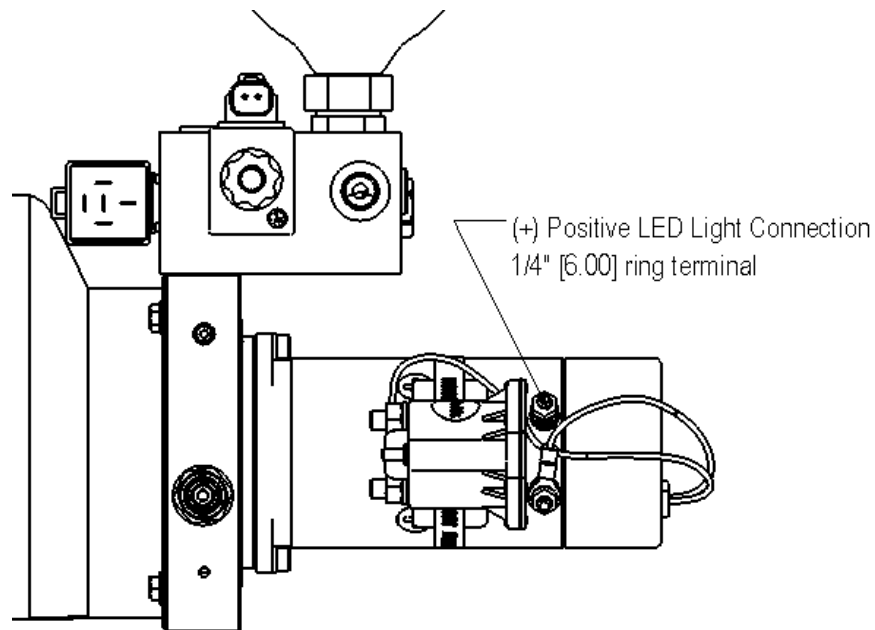

Figure 5
5.2.8.2.3. Connect the (+) positive wire for the light as indicated in Figure 5.